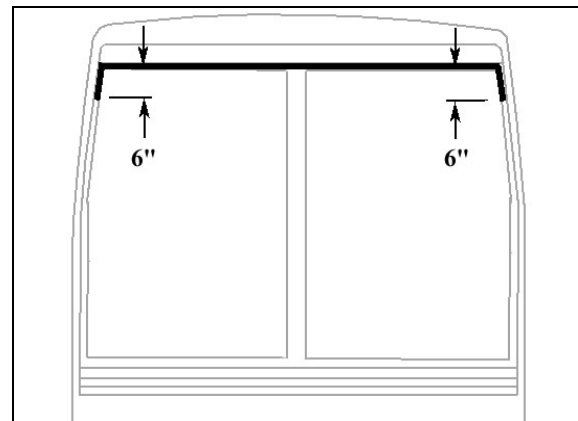

FIGURE 75: APPLICATION OF SIKA 221 BLACK
- At the top of windshield, clean surface between fiberglass and rubber extrusion using Sika 205 (Fig.75).